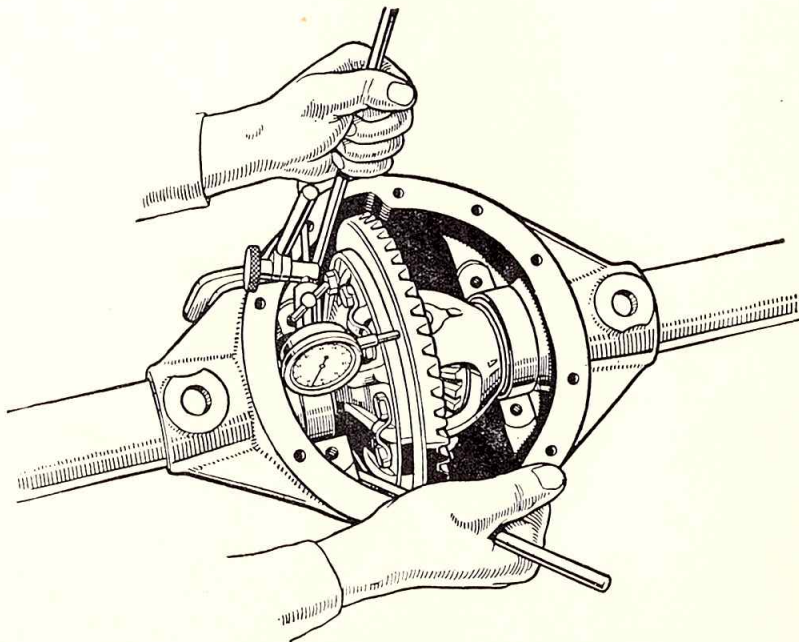

Fig. 11. Differential bearing adjustment.
- (1) Fit the differential bearings, without shims, on the differential case, making sure that the bearing cones and cups and the housing are perfectly clean.
- (2) Place the differential assembly, with the bearing cups in their housing, within the gear carrier, the pinion not being assembled.
- (3) Install the dial indicator set on the gear carrier with the button against the back face of the drive gear.
- (4) Inserting two levers between the housing and the bearing cups, move the differential assembly to one side of the carrier, as shown in Fig. 11.